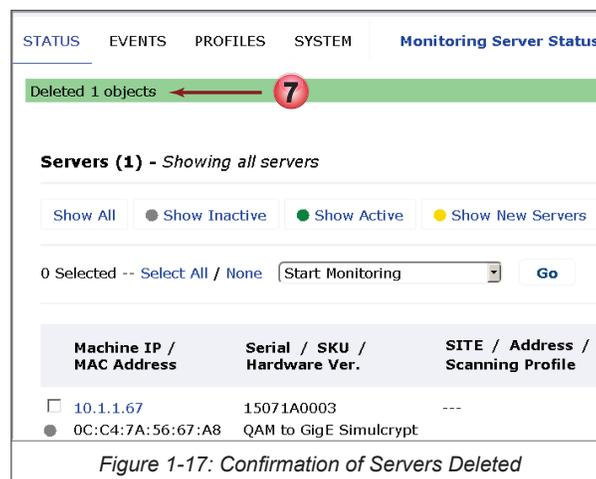

Figure 1-17: Confirmation of Servers Deleted
7. The Status Page shows a confirmation that the object was deleted, Figure 1-17.